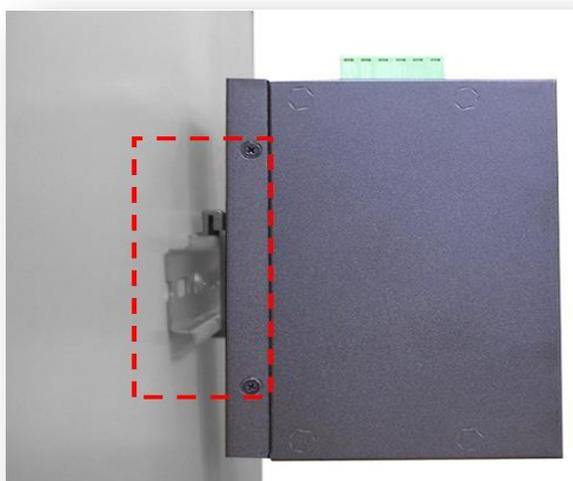

Figure3.3
4. Lightly pull down the bracket on to the rail as shown below in *Figure 3.3*.